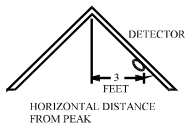

Figure 5: Recommended location to mount smoke detectors in rooms with sloped, gabled, or peaked ceiling
- E** If some of your rooms have sloped, peaked, or gabled ceilings, try to mount detectors 3 feet (0.9 meter) measured horizontally from the highest point of the ceiling as shown in Figure 5.